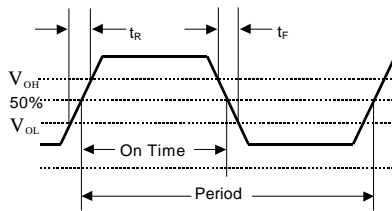
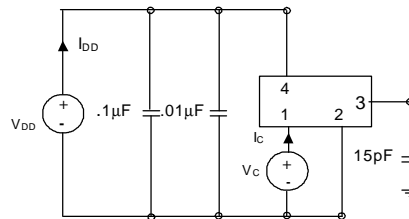

Figure 3. Output Waveform
Figure 4. Typical Output Test Conditions (25±5°C)
2. Figure 3 defines these parameters. Figure 4 illustrates the operating conditions under which these parameters are tested and specified. For  $f_o > 90$  MHz, rise and fall time is measured 20 to 80%.